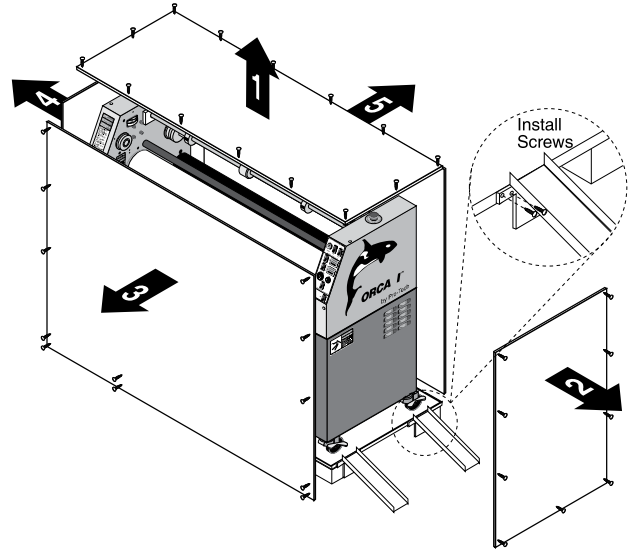

Figure 2-2: Removing the Crate
1. Remove the top of the crate and then the sides in the order shown in Figure 2-2.
A second person must support the side labeled 5 in Figure 2-2. It can fall and damage the laminator.
4. Have the laminator rolled off the skid and placed on the floor by licensed riggers. The ramps included with the laminator can be secured to the edge of the crate bottom using the screws left over from the crate disassembly (see Figure 2-2).